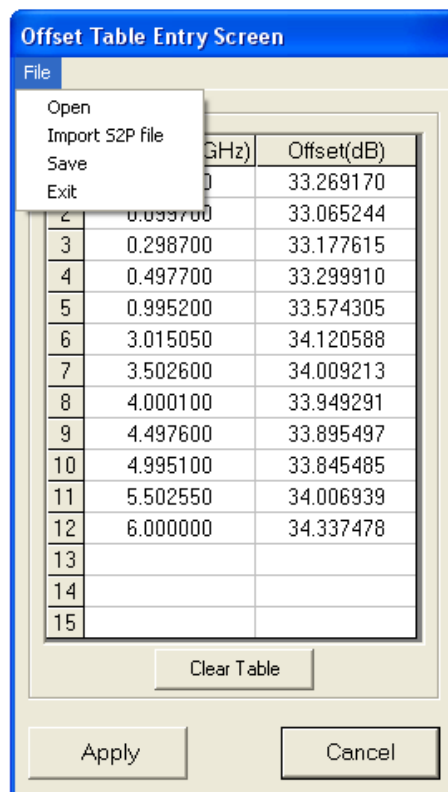

Figure 3-14. Offset Entry Screen
2. In the resulting dialog (Figure 3-14), enter the frequency response of the RF device manually or by importing an S2P file used to measure the DUT. The example below is of a 10 dB attenuator where the values were manually entered.